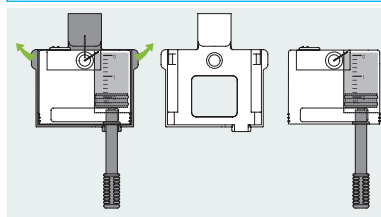

Figure 65
**7** Pull the two release tabs (shown in Figure 65) away from the reservoir to release the fill adapter.